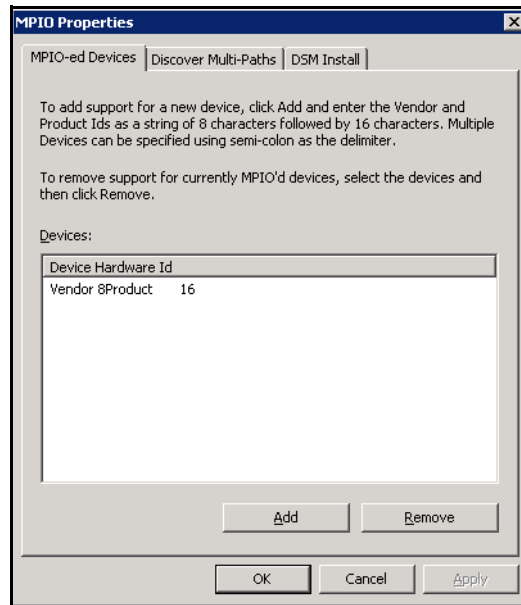

Figure 2-2: MPIO Properties Dialog Box
2. Point to **Administrative Tools** and click **MPIO**. The **MPIO-ed Devices tab** of the MPIO Properties dialog box appears. In this panel, the **Device Hardware Id** field shows the IDs of the MPIO hardware devices installed. The first time this dialog box appears, the default string in Figure 2-2 on page 2-9 is displayed to indicate that the vendor ID is limited to 8 characters and the product ID is limited to 16 characters.